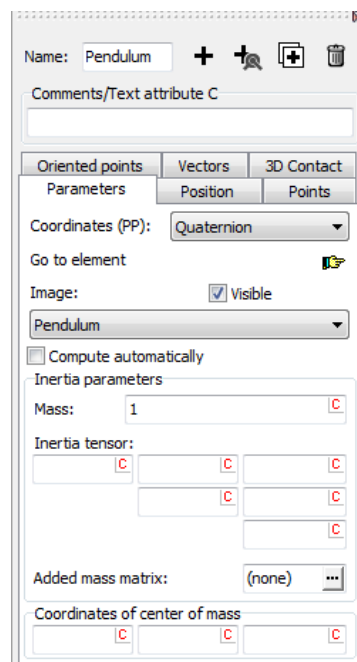

Figure 1.10. Creating **Pendulum**
5. Set **Mass = 1** (kg), see in Figure 1.10.